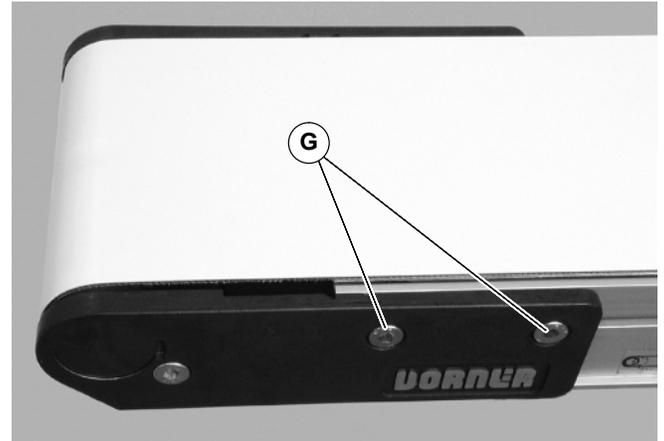

Figure 9
11. Install idler end assembly on conveyor. On both sides of conveyor, hand tighten fastening screws (G of Figure 9).